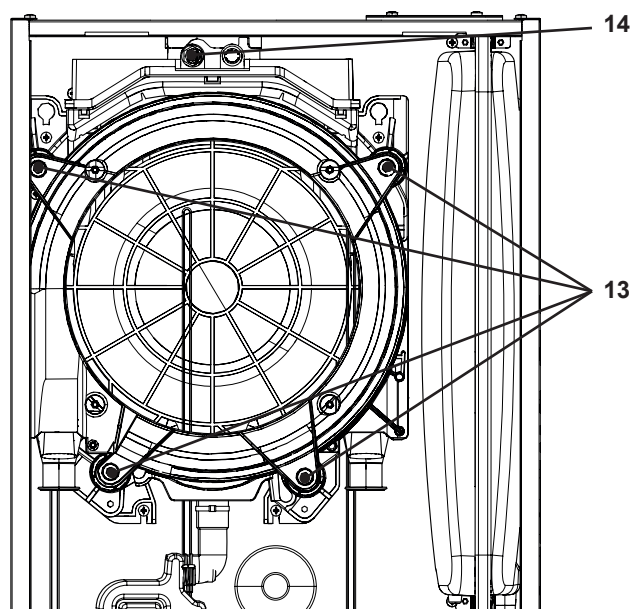

Figure 5.3
- 11 Unscrew the screws "13" and remove the clamps (Figure 5.3).
- 12 Disconnect the connector "14" by pressing the plastic hook placed on the side of the connector (Figure 5.3).